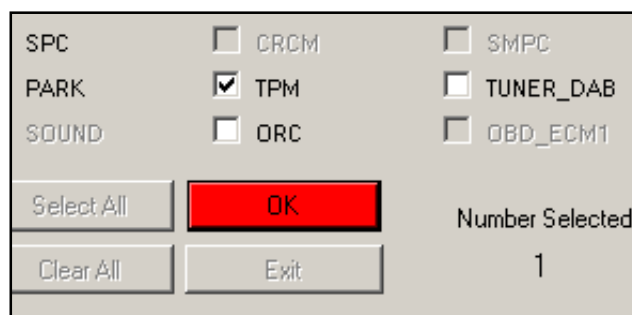

Figure 2
4. Select "TPM" from the list of available modules and click "OK" (refer to Figure 2).